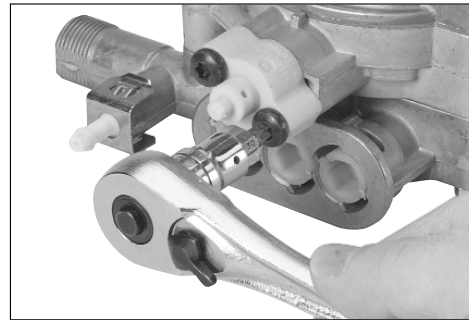

figure 3
2. Remove thermal relief valve housing. (figure 3)